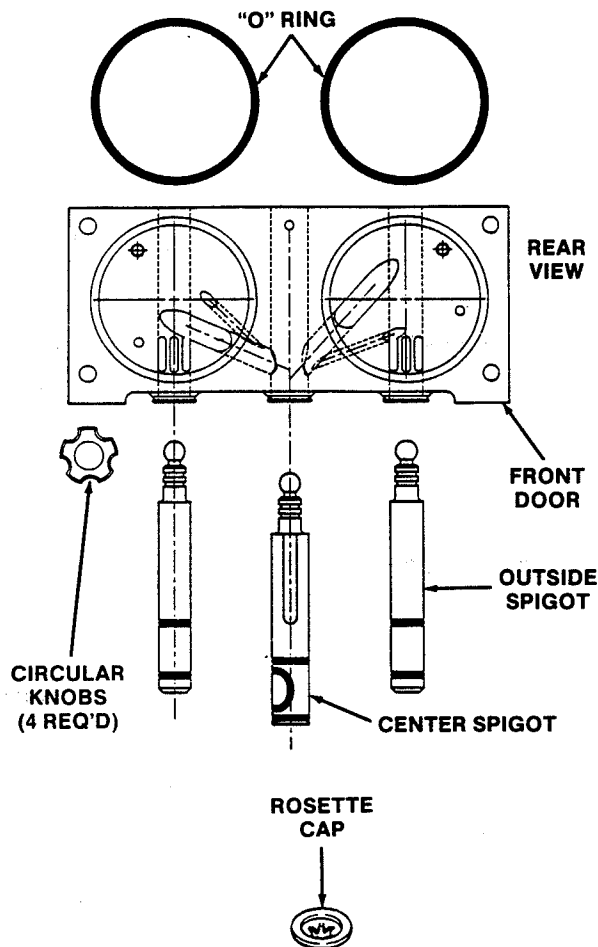

Figure 20. Removing Spigot
- C. Remove rosette caps from the front door. Push the spigot body through the bottom of the front door and remove the spigot body. (Fig. 20)